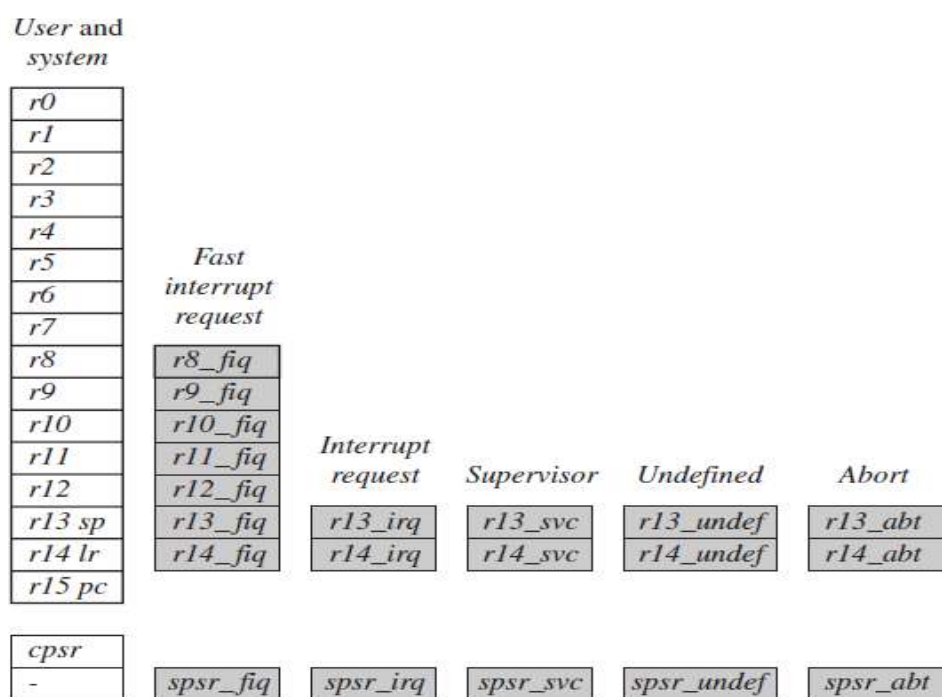

Figure 2.4 Complete ARM register set.
- Figure 2.4 shows all 37 registers in the register file.